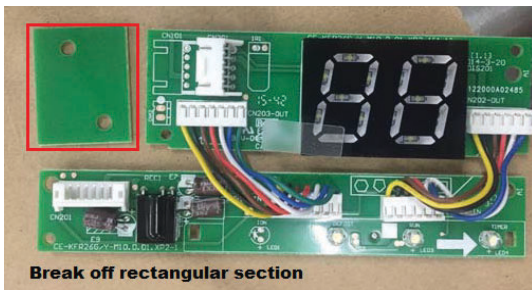

Fig. 18 — Display Board
6. Carefully bend and break off the rectangular section (upper left section with two diagonal holes) from the Display Board (see Fig. 18).